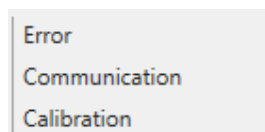

Figure 14. Tools Menu – Open Logfile
- Open Logfile: the available Error, Communication, or Calibration log files can be opened for here (see Figure 14).